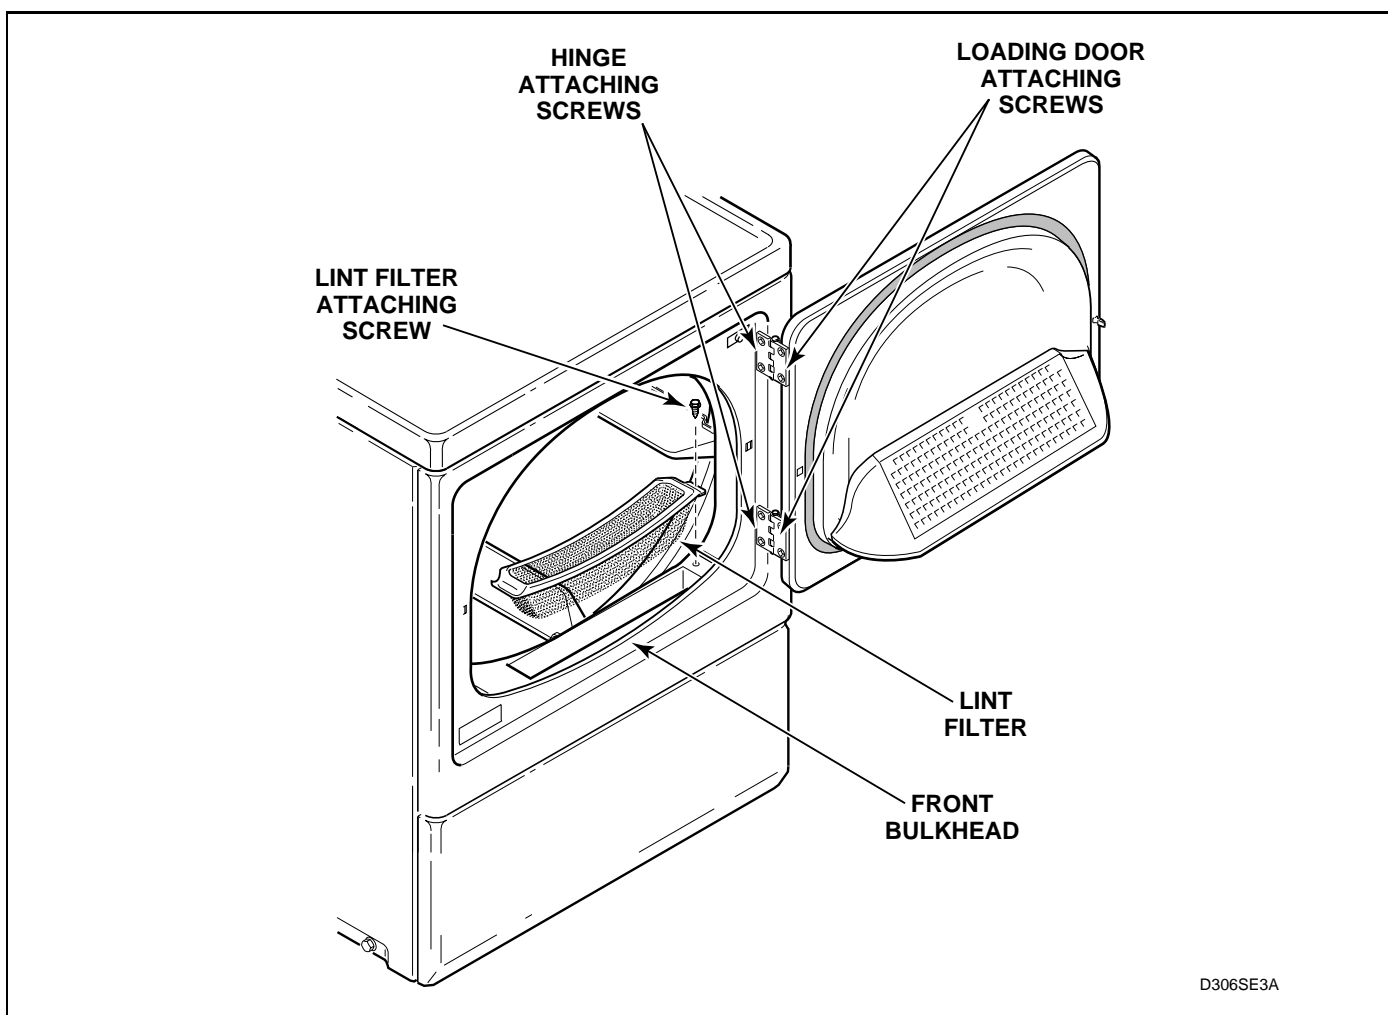

Figure 28
### 27. LINT FILTER (Figure 28)
- Remove screws holding loading door to hinges. See Figure 28.
- Remove four screws holding door assembly to hinges. See *Figure 28*.